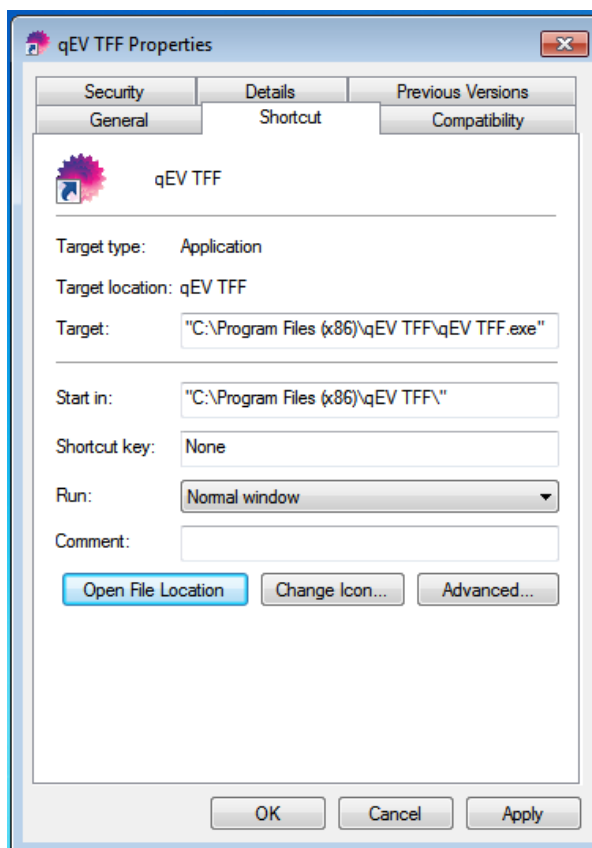

Figure 15. qEV TFF Properties menu.
13. Click 'Open File Location' as shown in Figure 15 below.